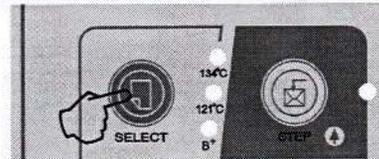

Fig 5-2
5.2.1 Press “SELECT” to set one of the cycles. The key toggles between the cycles at 121 °C, 134 °C and cotton mode. One of the indication lights turns on to show the cycle you selected. (Fig 5-2)